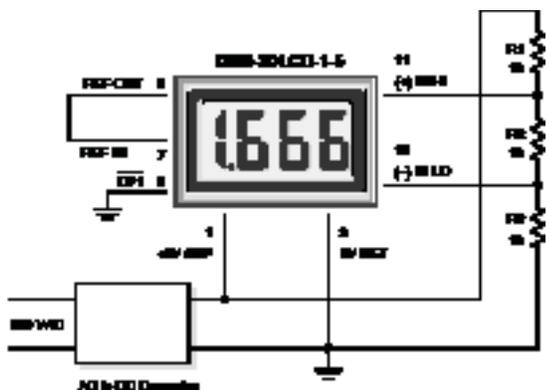

Figure 3. Differential Input Configuration (5V-Powered Models)
2. **Differential Input Configurations:** Differential measurements can be made with either 5V-powered or 9V-powered meters. Figure 3, though not a practical real-world application, uses a voltage divider to demonstrate the concept of a differential input signal. Be careful not to exceed the ±2V common mode voltage limitation for 5V powered meters.